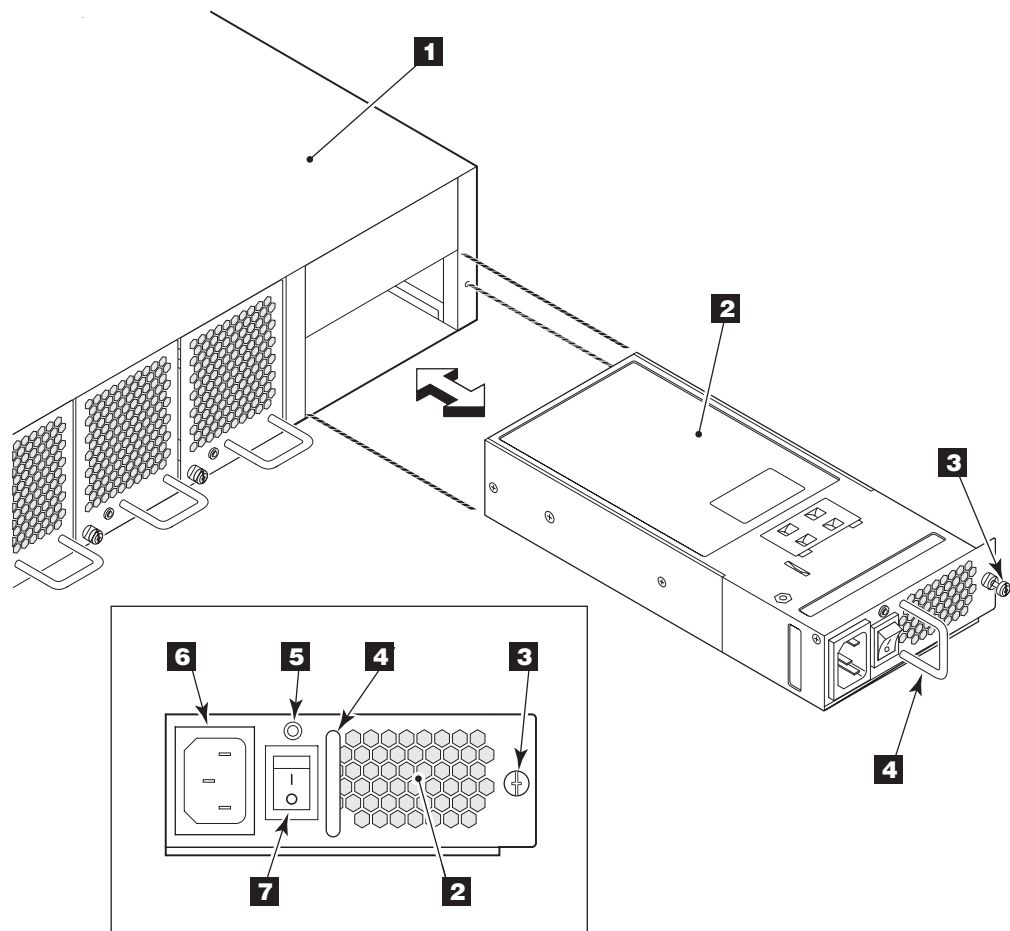

Figure 25. Power supply removal and replacement
- Check the power supply status LED above the On/Off switch (see Figure 25 on page 47).
2. If the power supply you are replacing is not already off, press the ac power switch on the circle symbol **0** to power it off. See Figure 25 for the location of the ac power switch.
1. Orient the power supply as shown in Figure 25 on page 47, with the ac power switch on the left.